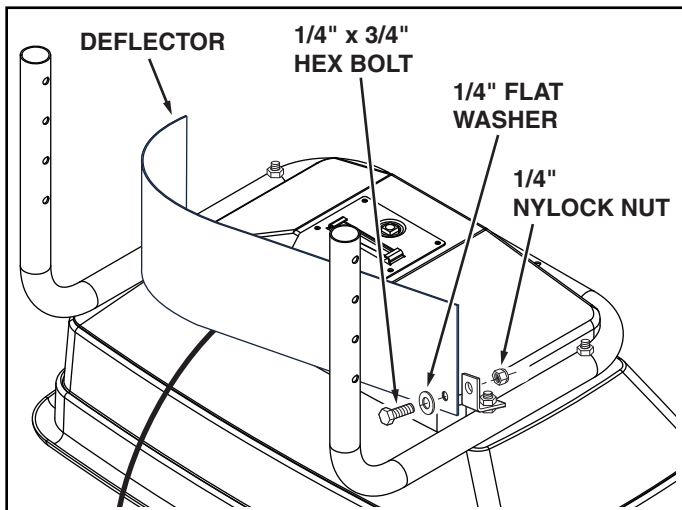

FIGURE 2
- 3. Fasten deflector to angle brackets using two 1/4" x 3/4" hex bolts, 1/4" flat washers and 1/4" nylock nuts. Allow angle brackets to swivel so deflector curves naturally between angle brackets and then **tighten all nuts.** See figure 2.